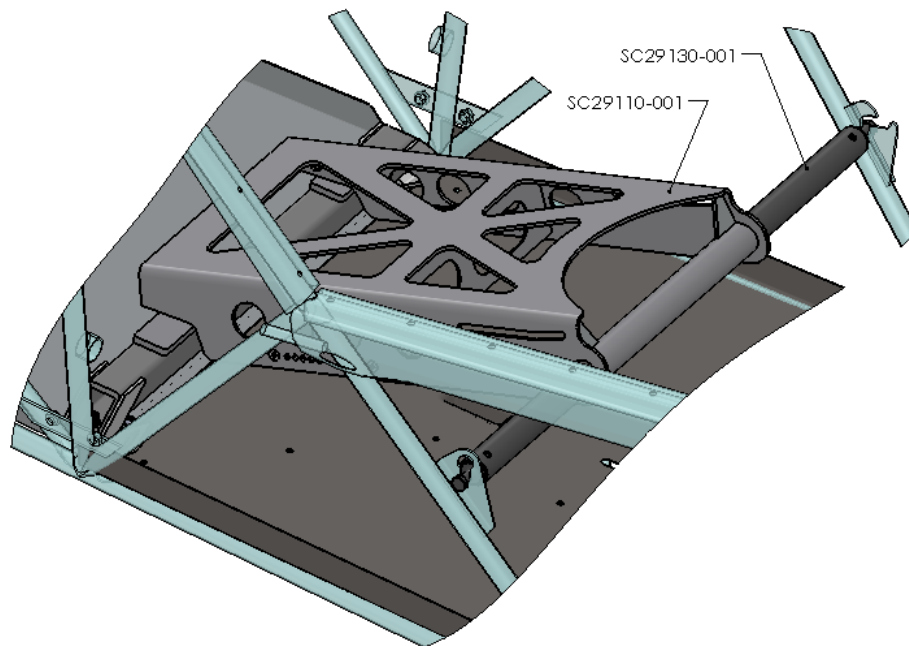

Figure 3 – Seat Base Positioning
- Slide the Rear Seat Cross Tube (SC29130-001) through the front tube of the Seat Base Weldment (SC29110-001) and install in fuselage as shown in Figure 3. Let the aft end of the seat base rest on the pads of the aft seat beam (SC29120-001).